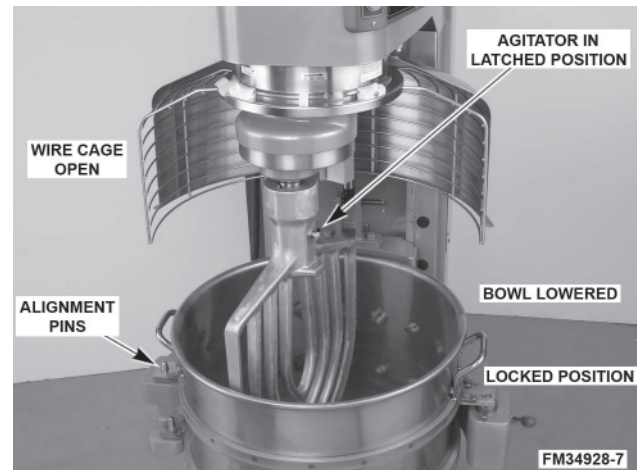

Fig. 6
3. Swing the bowl into the locked position on bowl support (Fig. 6).
3. Slide the agitator up the agitator shaft until it stops and latches (Fig. 6).